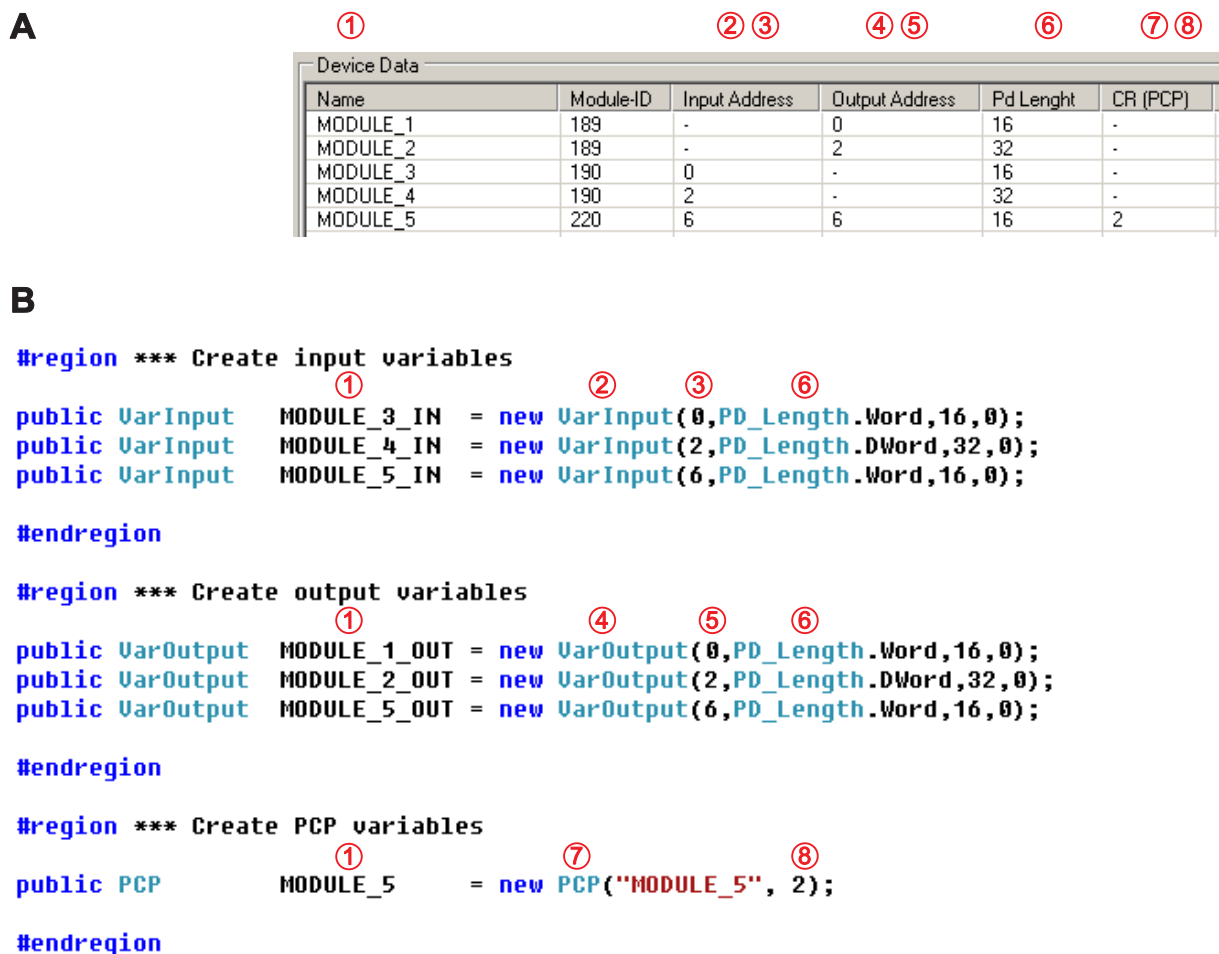

Figure 4-3 Variables in the HFI Device Explorer and in Visual Studio
The information displayed for the variables can be entered in the variable declaration for the program. Figure 4-3 shows the relationship between the data in the HFI Device Explorer (A) and in the example program (B).